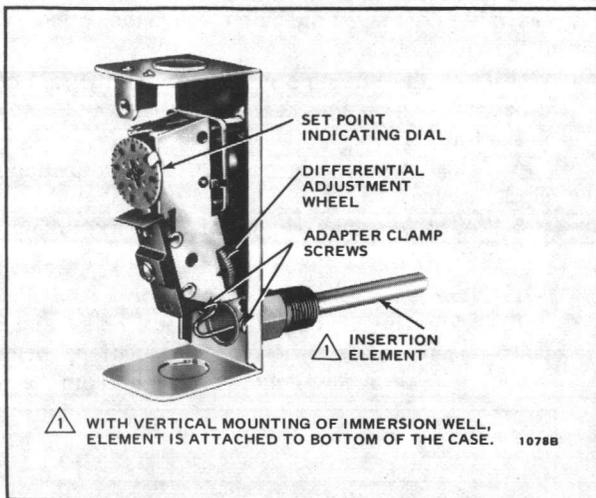

FIG. 12—INTERNAL VIEW OF L6006A.
1. Loosen screw (at top of case, above scale-setting), and remove cover. Loosen two screws that secure adapter clamp. See Fig. 12.